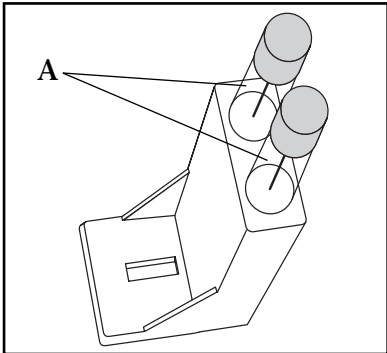

Figure 9.34
3. Remove fuse (A) and note amperage. (Figure 9.34)